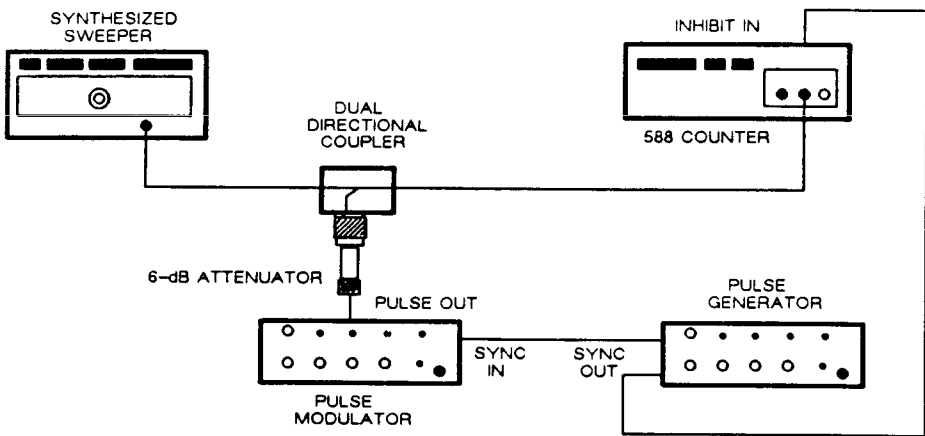

Figure 4-27. Band 2 Maximum Video Test Setup
3. Connect equipment as shown in Figure 4-27.